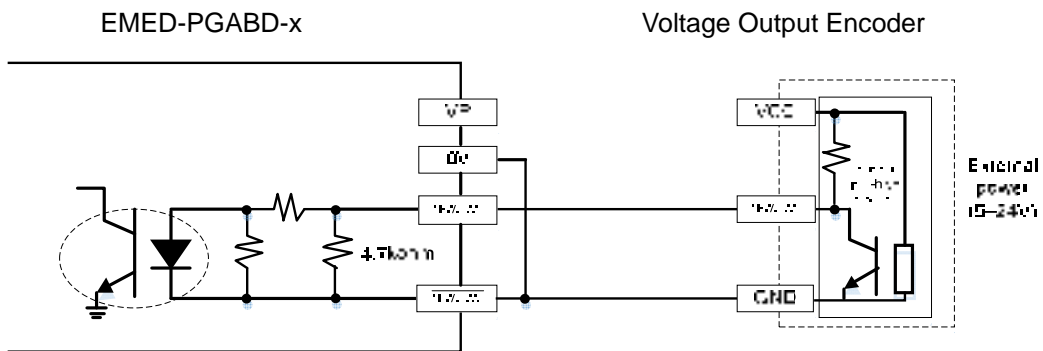

Figure 5
2. Voltage output encoder application: Each set of input current is 5–15 mA. If input voltage uses 24V power, connect the encoder power externally. See the PG wiring Figure 5 below.